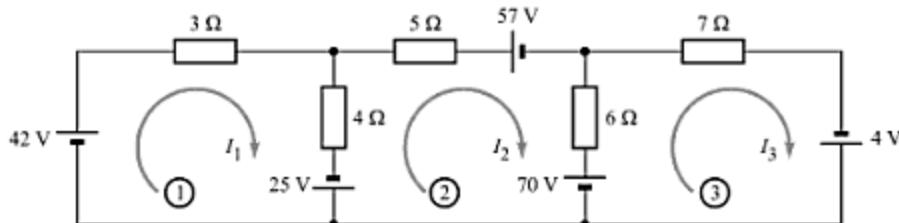

Fig. A-66
- A-23. Determine the mesh currents in the circuit of Fig. A-66. [Ans. 5 A, -8 A, 2 A]